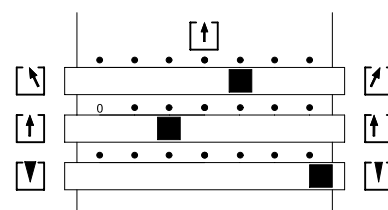

Fig. 37 Setting illumination control on transmitted-light equipment
- Connect the light guide for transmitted light (TL) to the cold-light source.
- Turn on the cold-light source for transmitted light (TL) at the toggle switch (position I).
- Select the desired technique via the illumination control on the transmitted-light equipment (Fig. 37). Use intermediate positions to optimize the contrast by oblique light.